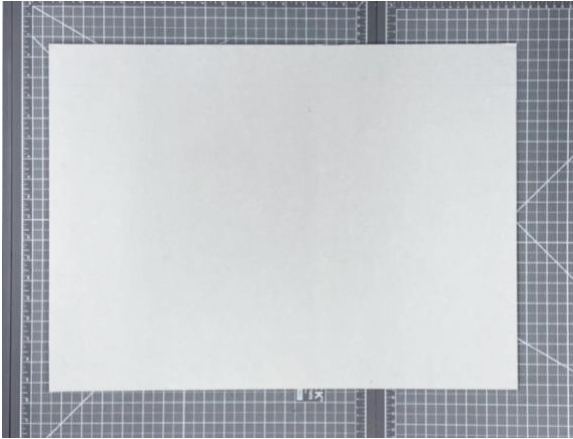

Figure 1.
1. Choose a standard mount size based on the maximum dimensions of the textile fragment. Cut two boards to that size out of single-walled archival corrugated board (blueboard) as shown in figure 1. For example, if you are making a standard large mount, cut two 23" x 17" boards.